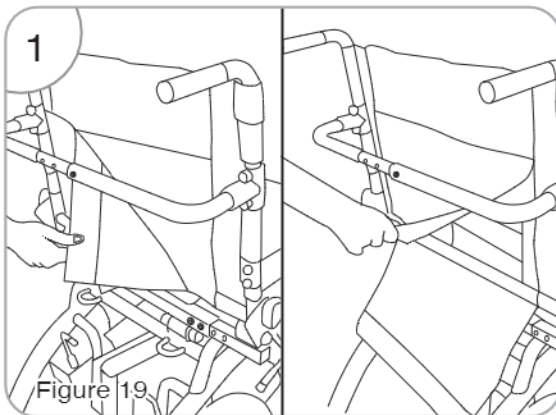

Figure 19
1. Take off backrest pad as illustration by release it's vel-cro. (See Fig. 19).